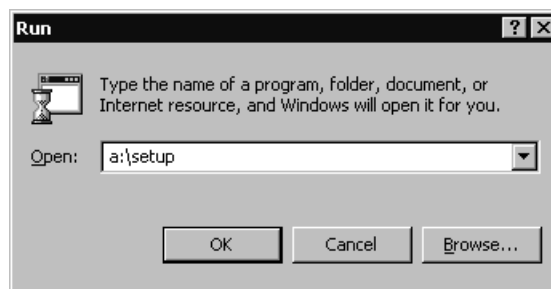

Figure 5-3. Running TCP/IP Direct Connect Setup
1. Insert the TCP/IP Direct Connect for Windows 2000 floppy into your systems drive and invoke the setup program (see Figure 5-3).